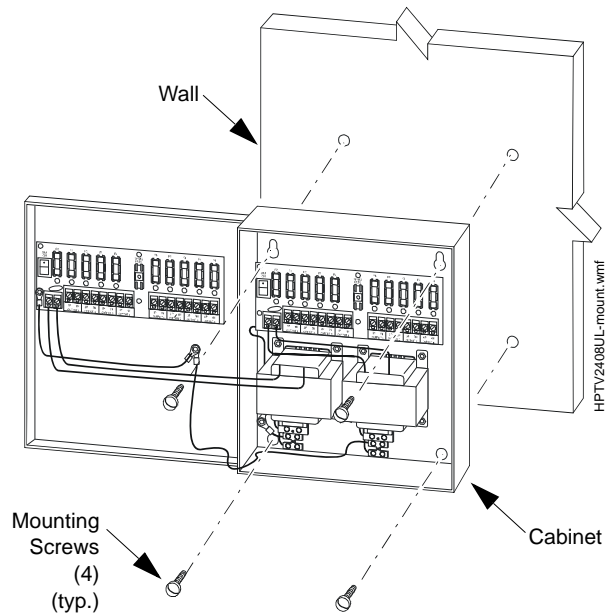

Figure 1
2. Secure HPTV2416UL enclosure to the desired location (indoor installation only) as shown in Figure 1.